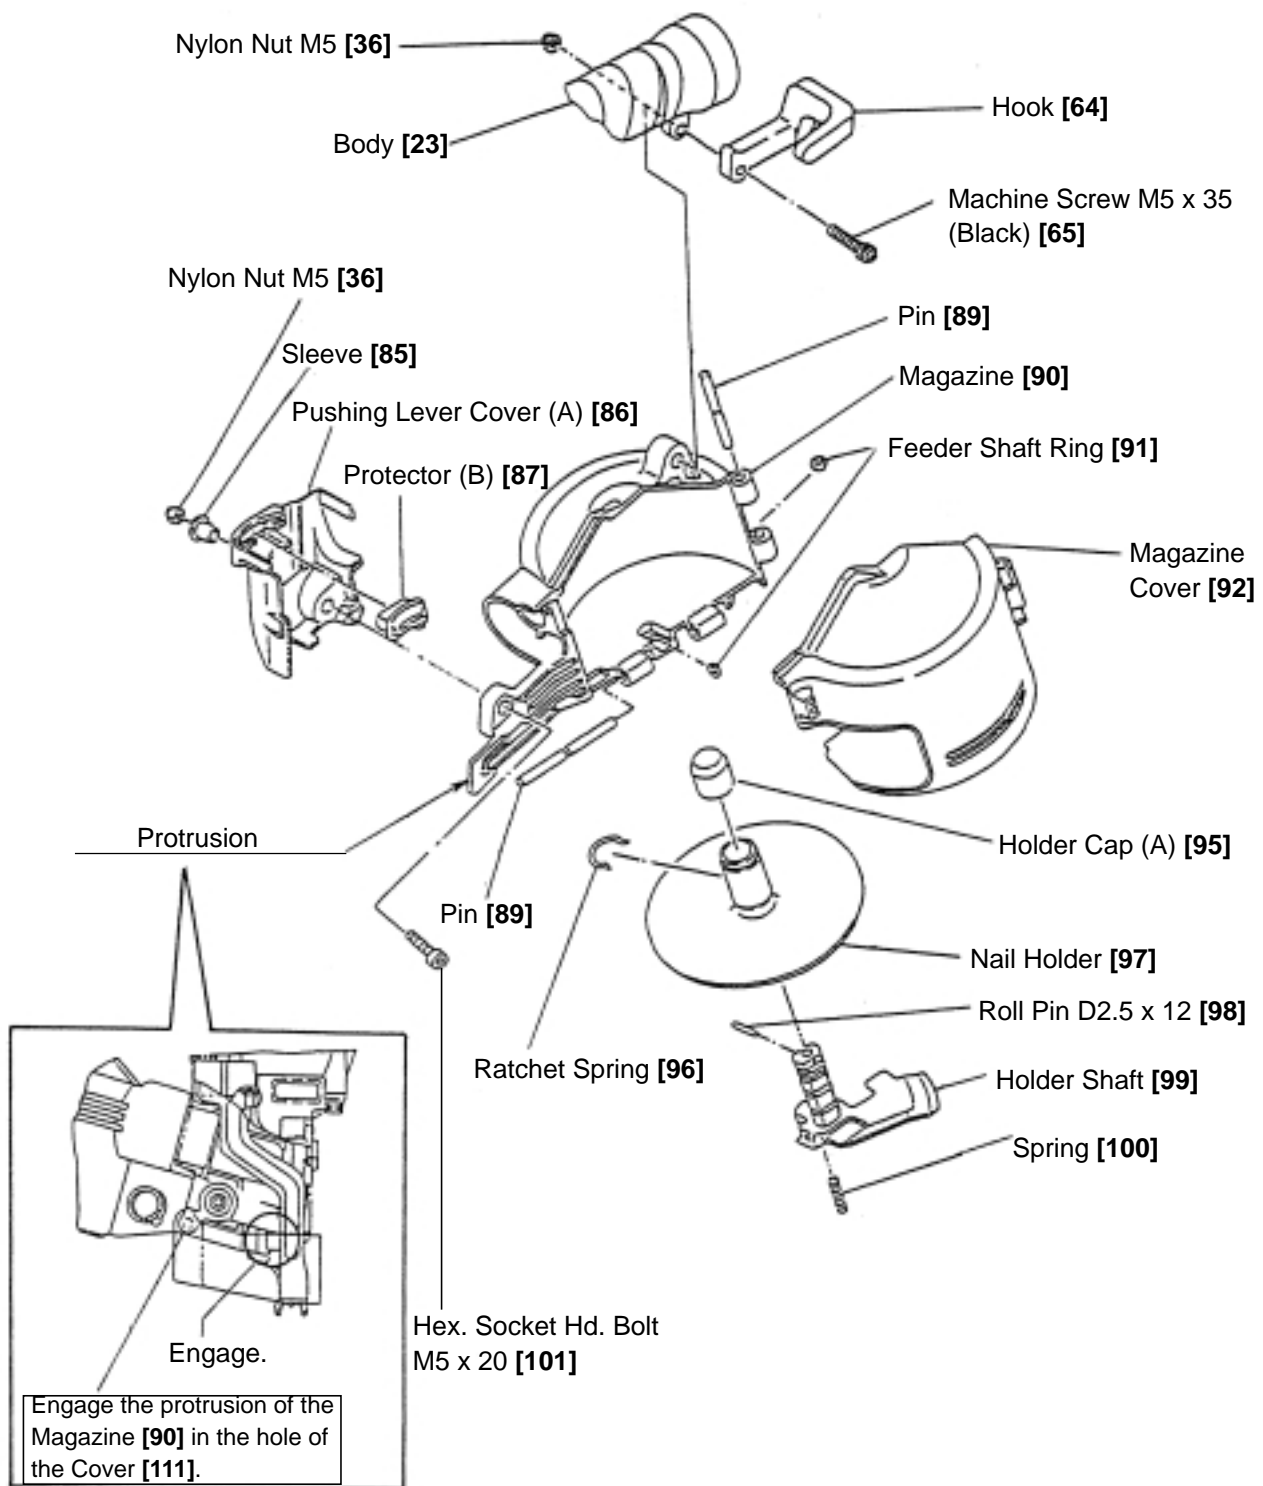

Fig. 24 Disassembly and reassembly of magazine section
(a) Disassembly (Fig. 24)
- Fit the convex portions of Nail Stopper (A) [103] and Nail Stopper (B) [108] in the Nail Stopper Spring [104] and the Stopper Spring [109] securely.
- After reassembly, push Nail Stopper (A) [103] and Nail Stopper (B) [108] with fingers to check that they return smoothly.
- Bend the tip of the Cover [111] and engage it with the convex portion of the Magazine [90] (Fig. 24).
- Check that Plunger (A) [73] moves smoothly.
- Push Nail Stopper (A) [103] and Nail Stopper (B) [108] with fingers to check that they return securely.